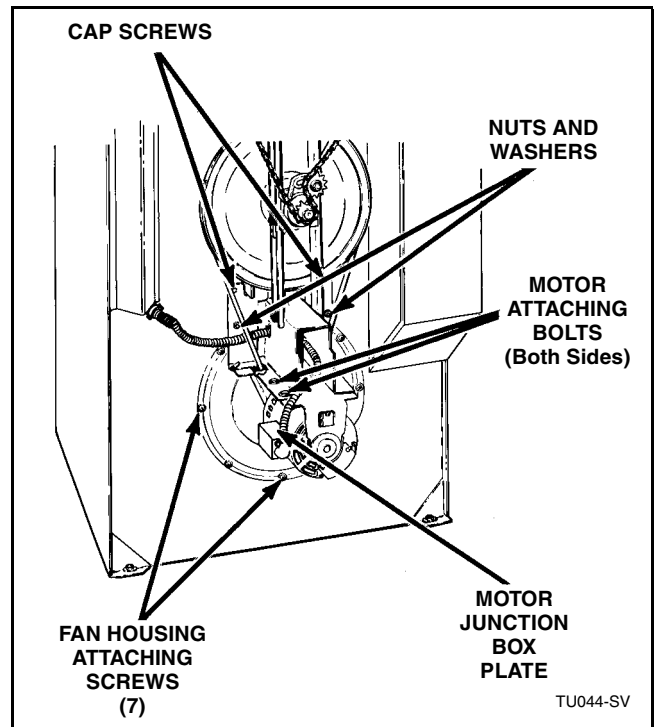

Figure 36
- f. Remove the seven fan housing attaching screws. Refer to *Figure 36*.
- g. Remove the two cap screws and two sets of nuts and washers holding motor bracket to rear of tumbler cabinet. Refer to *Figure 36*.
- h. Remove cover from motor junction box and disconnect wires from motor. Refer to *Figure 36*.